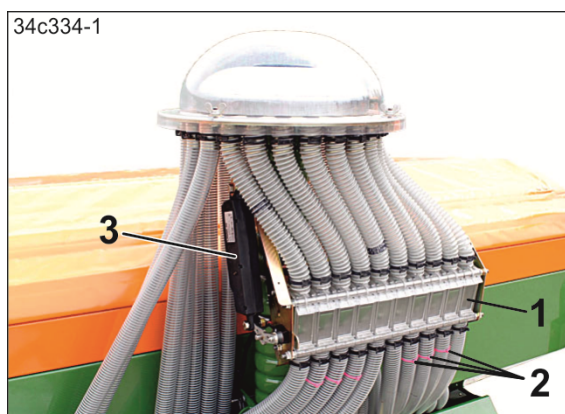

Fig. 71
- the tramline flaps in the flap box (Fig. 71/1) interrupt the seed supply to the seed lines (Fig. 71/2) of the tramline coulters. An electric motor (Fig. 71/3) actuates the tramline flaps.
The active flaps of the flap box are marked. Red cable ties (Fig. 71/2) on the seed tubes mark the active tramline flaps.